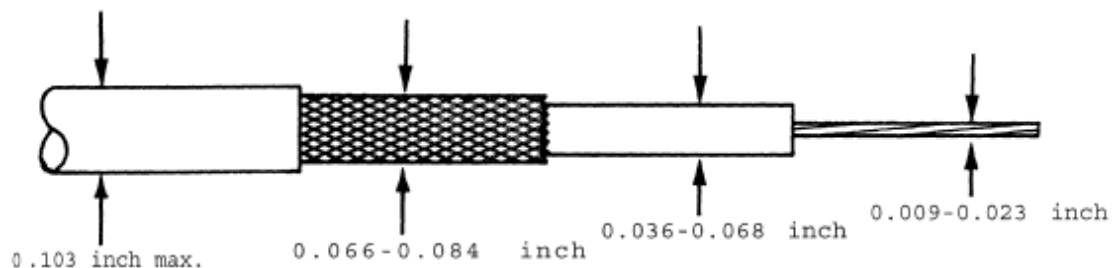

Figure 5-1. Coaxial Cable Size Accommodation: Conventional Stripping
D-602-0140, D-602-0141, and D-602-0171 SolderTact contacts can be terminated to coaxial cable of the dimensions shown in Figures 5-1 and 5-2.
- o Figure 5-1 applies to cables prepared using conventional stripping.